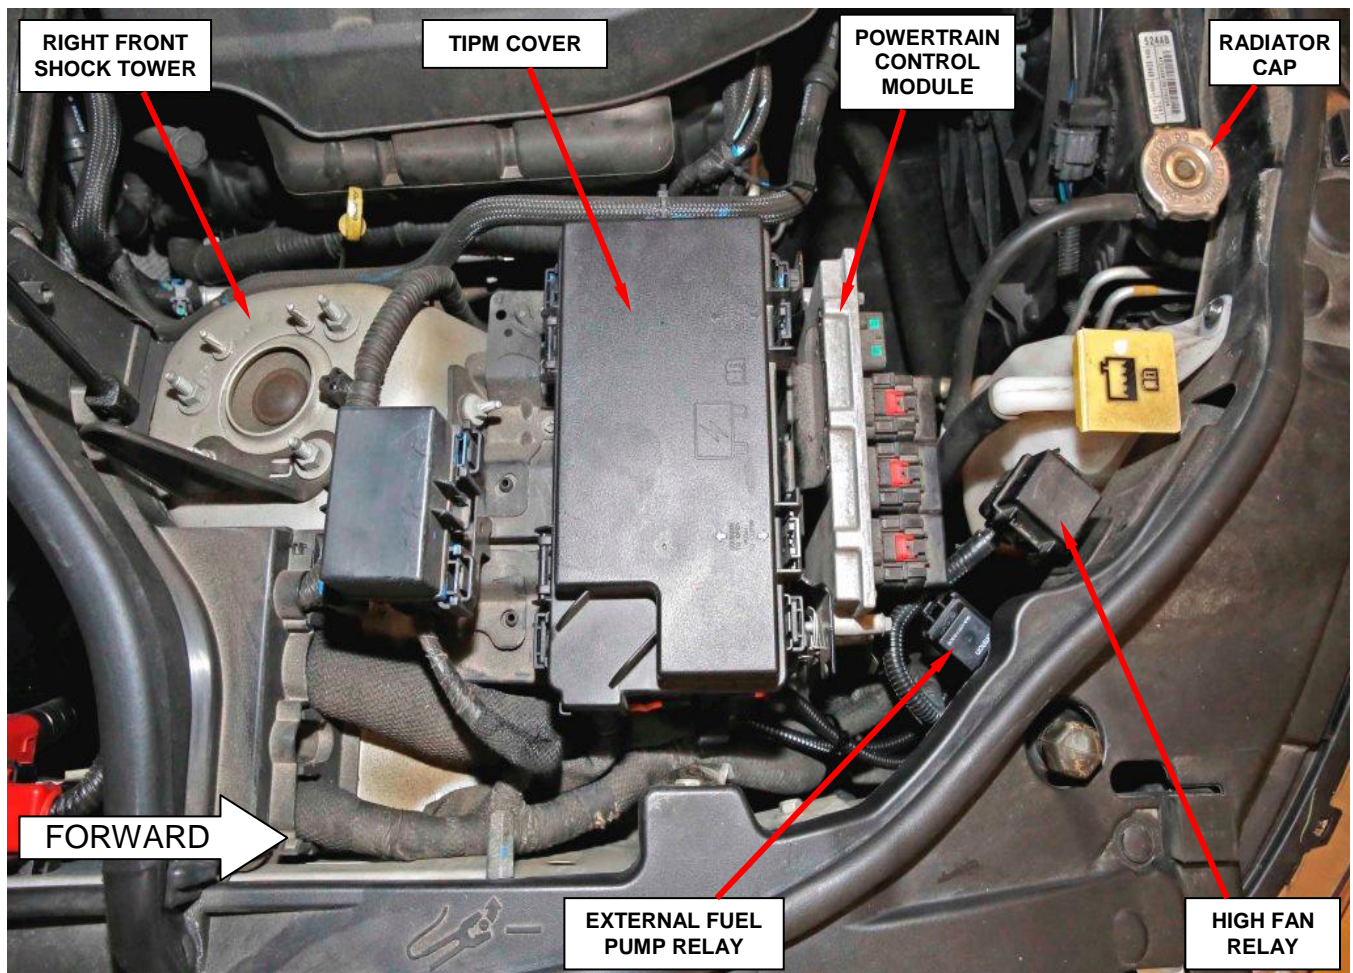

Figure 1 – Inspect for External Fuel Pump Relay
2. Inspect for an external fuel pump relay (Figure 1):